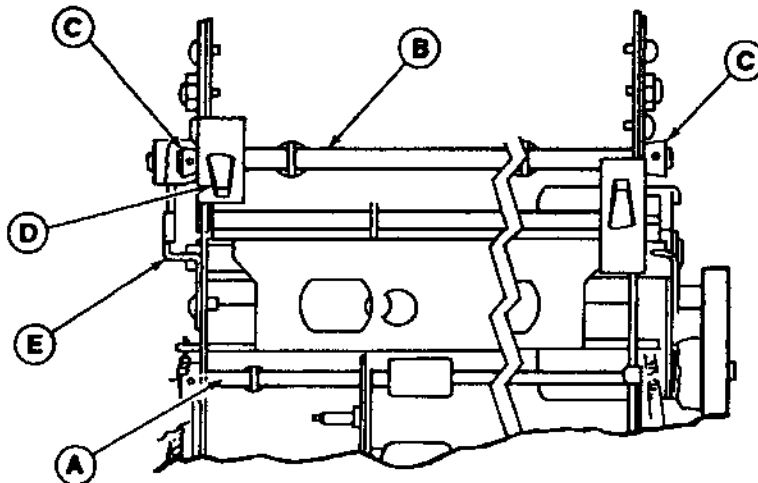

Figure 5-11 CARRIER ASSEMBLY ADJUSTMENTS
1. Carrier Assembly Adjustments. Refer to Figure 5-11.